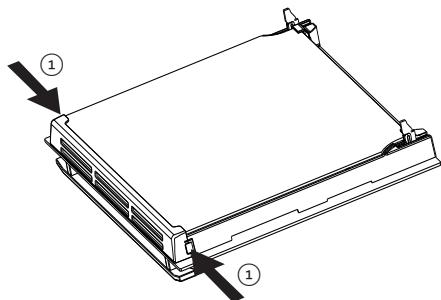

Fig. 10.13
- Touch the glass retainer tabs in on both sides of the door and remove the glass retainer (fig. 10.13, 10.14).